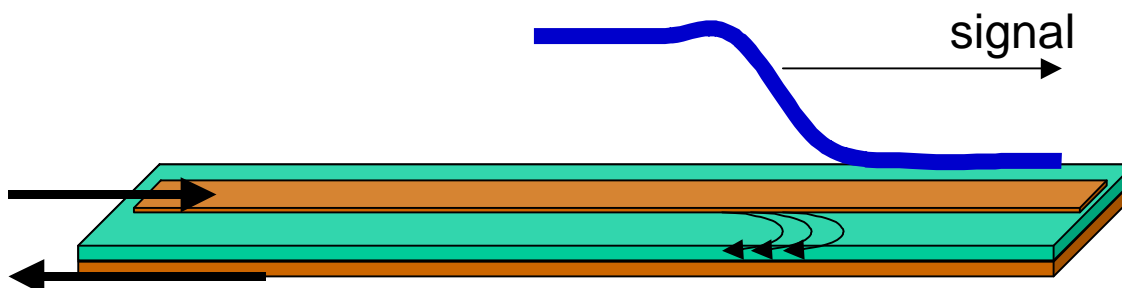

Figure 3. Current paths in a transmission line as the signal propagates. Note that the current returns to the source where ever the signal voltage is changing.
The “-“ current flowing into the return path is really the same as “+” current flowing out of the return path. And, right at the wave front of the signal, the (AC) current flows through the capacitance between the top line to the bottom line, closing the loop. This is illustrated in Figure 3.